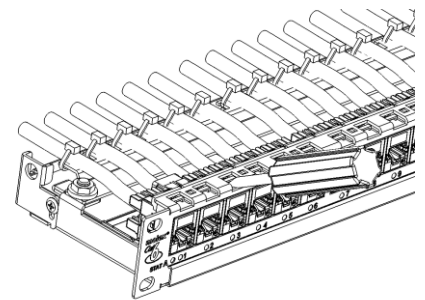

Figure 6
3. Use screwdriver or similar tool to lift the latch above jack and release jack (See Fig. 6).